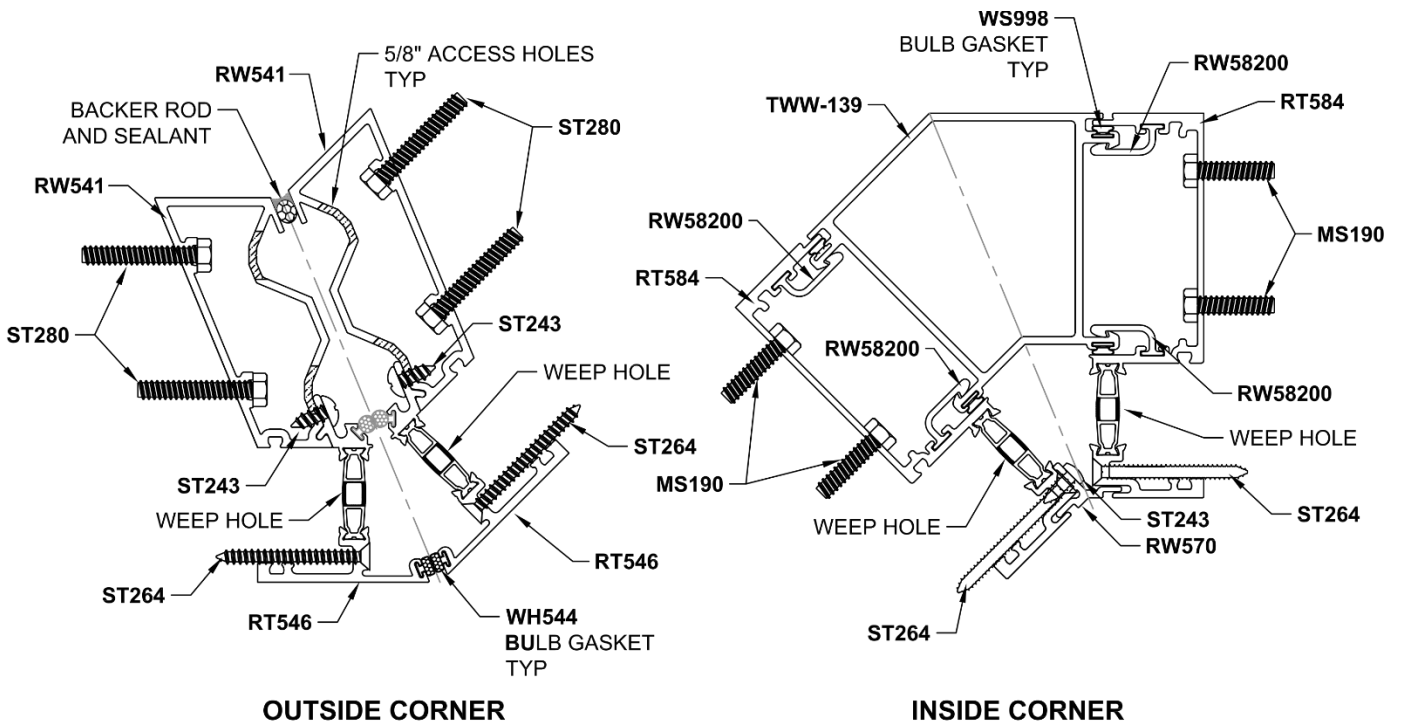

Figure 80: 135° Corners
- 21.3 For 135° corners, reference *Figure 80* for connection detail and fastener information.